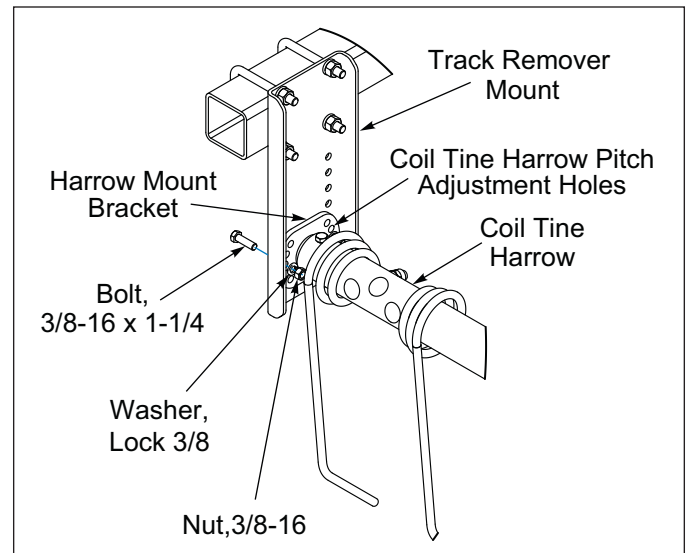

Figure 3-17: RH & LH Harrow Pitch Adjustment
1. Adjust the Coil Tine Harrow Pitch by removing the Harrow Mount Bracket 3/8-16 x 1-1/4 Bolts, Lock Washers and Nuts and rotating the Harrow Mount Brackets to the desired angle. **See Figure 3-17.**